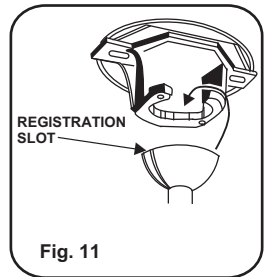

Fig. 11
Step 8. Lift the Motor Assembly and place the Hanger Ball into the Hanger Bracket. Rotate the Motor Assembly as needed until the check groove from the Hanger Ball rests firmly over the registration tab from the Hanger Bracket. Motor Assembly should not rotate if this is done correctly. (Fig. 11)
Step 2. If your outlet has a ground wire (Green or Bare Copper) connect the fan ground wires (on hanger ball and hanger bracket) to it; otherwise connect the fan ground wire on hanger ball directly to the hanger bracket. (Fig. 11)